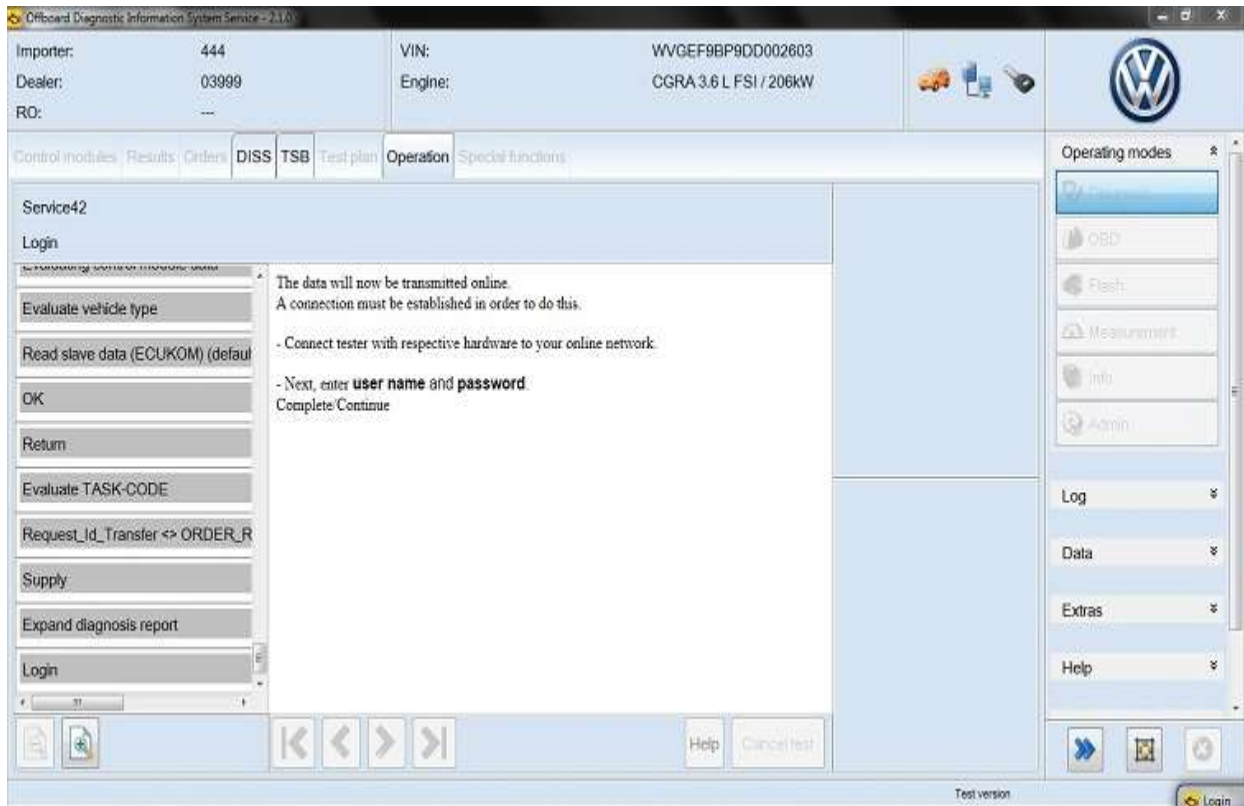

Figure 4
10. If required, enter your GRP information. This will allow data to be transmitted to the SVM server and will provide instructions on how to continue the procedure (Figure 4).